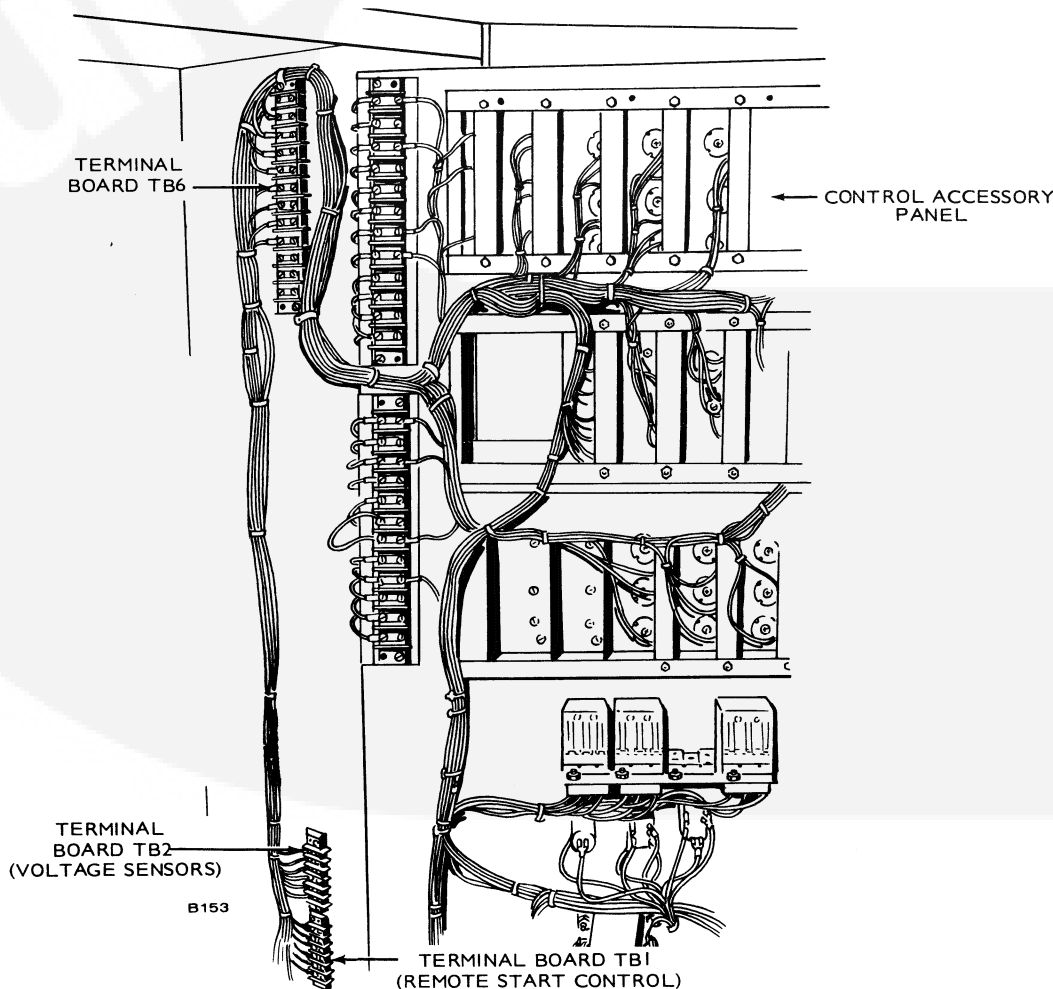

FIGURE 3. TERMINAL BOARD CONNECTIONS FOR CONTROL ACCESSORY PANEL
6. Remove external wires from TB1, TB2, and TB6 (if all present), then remove these terminal blocks from mounting. See Figure 3.
6. Remove the external wires from TB1 and TB6, then remove the terminal blocks from mounting. See Figure 3.